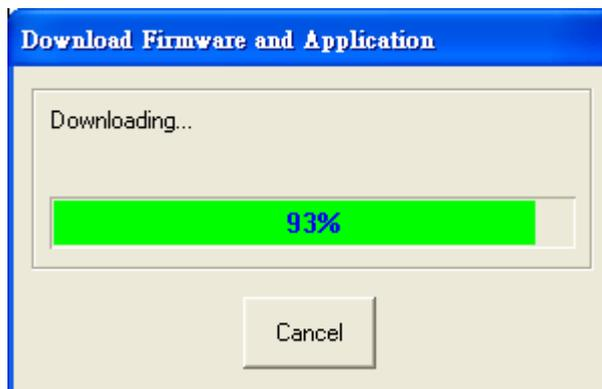

Figure 188. Download Firmware and Application
- Download the ADP file to HMI. First, select [Download Application] on HMI, then select [Application]/[Download Firmware and Application] in ADP. The dialog box will be appeared as below in ADP. See Figure 188.